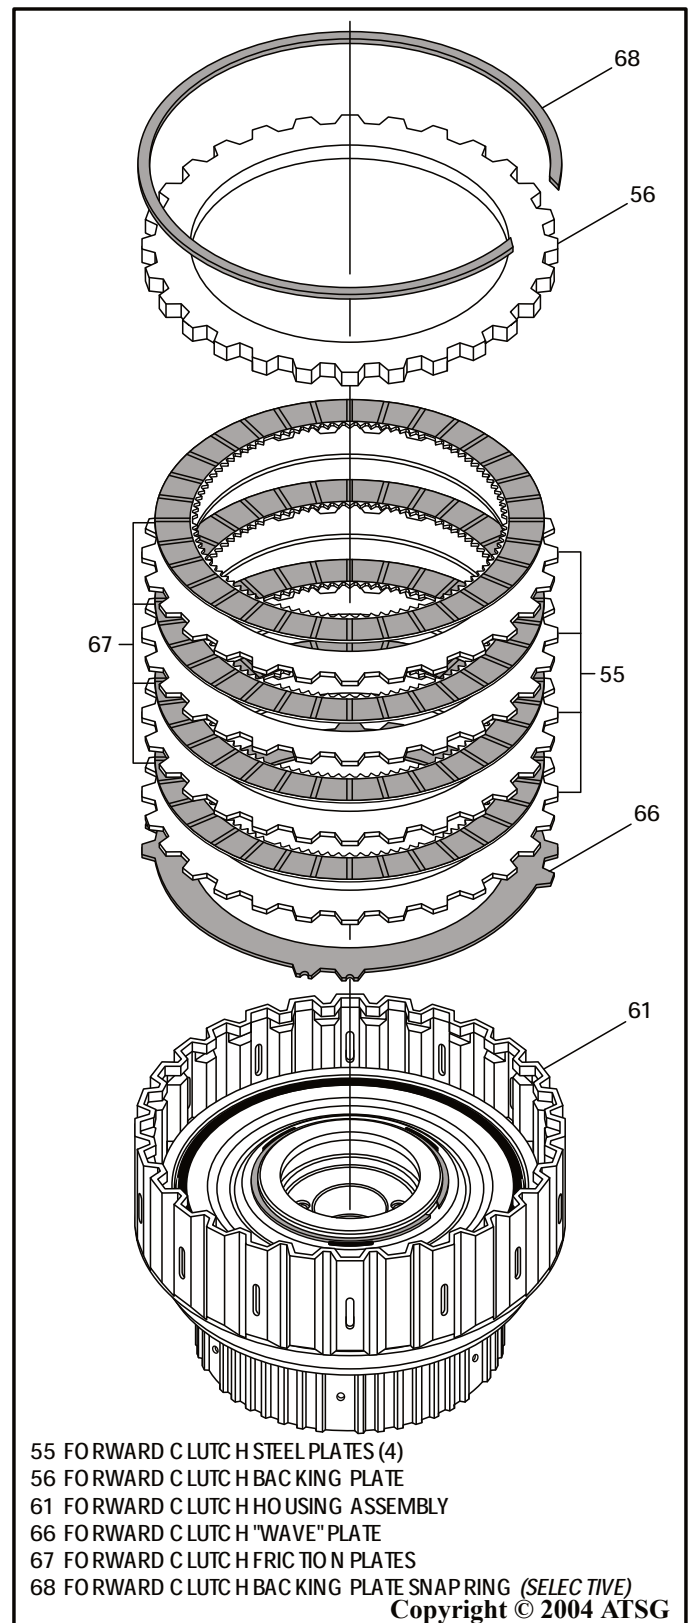

Figure 125
10. Install the forward clutch "Wave" plate, as shown in Figure 125.
11. Install 4 steel plates and 4 friction plates for the model you're building, as shown in Figure 125.
12. Install the forward clutch backing plate and the selective snap ring, as shown in Figure 125.